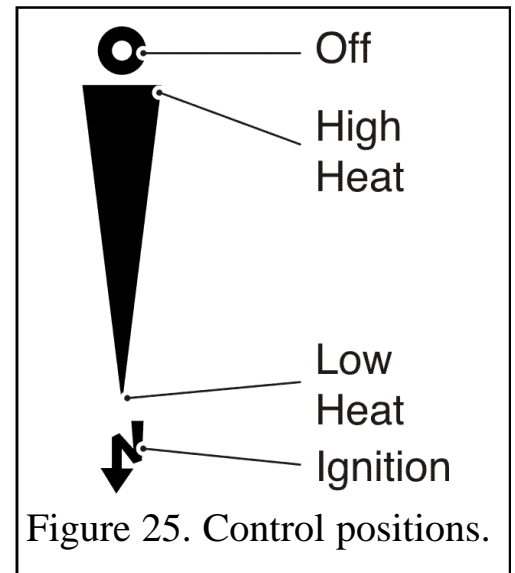

Figure 25. Control positions.
The control position markings on the fascia are shown in figure 25.
1. Gradually slide the button up to increase the burner setting. The burner should be at its maximum setting at the high heat position shown in figure 25. You should feel a check to the button movement at this position.